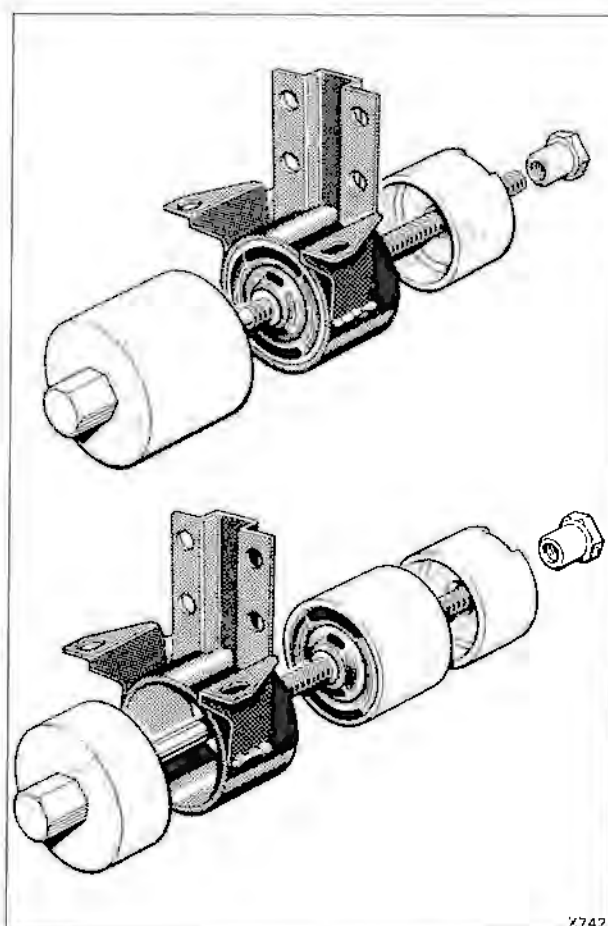

Fig. H9-5 Mount extraction and insertion tool RH9291
11. Position the extraction components of tool RH9291 onto the mount (see fig. H9-5). Tighten the draw bar until the mount is withdrawn from the crossmember. Remove the old mount and the extraction cup from the tool.
8. Remove the mount from its housing using the extraction components of tool RH 9291 (see fig. H9-5).